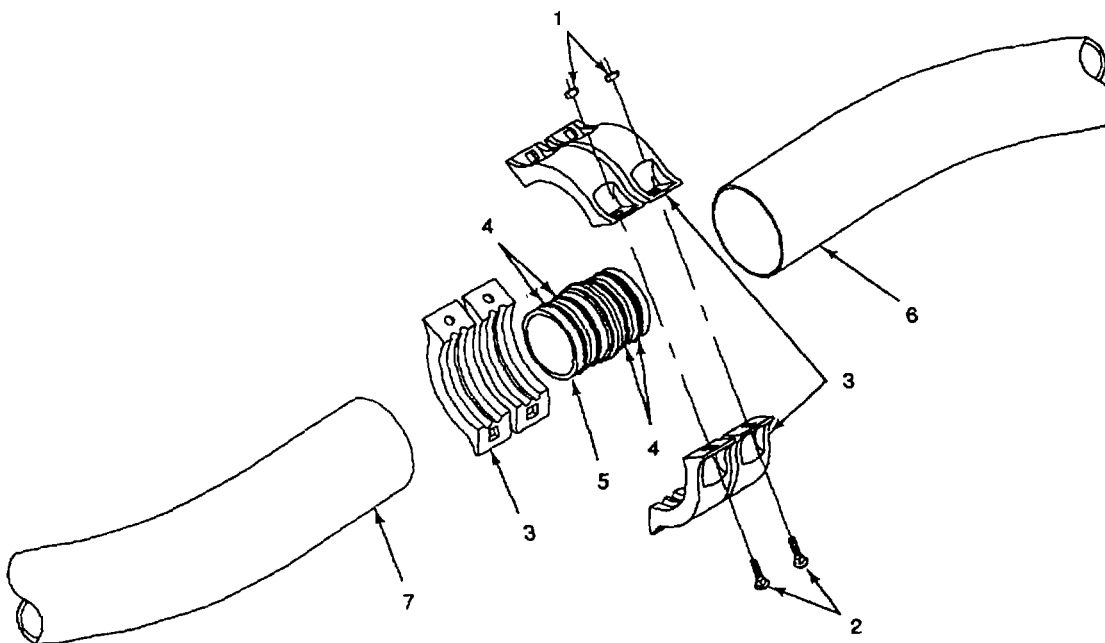

Figure 3-3. Mid-section Hose Adapter Assembly
- (f) Install mid-section adapter assembly between hose ends as follows (Figure 3-3):